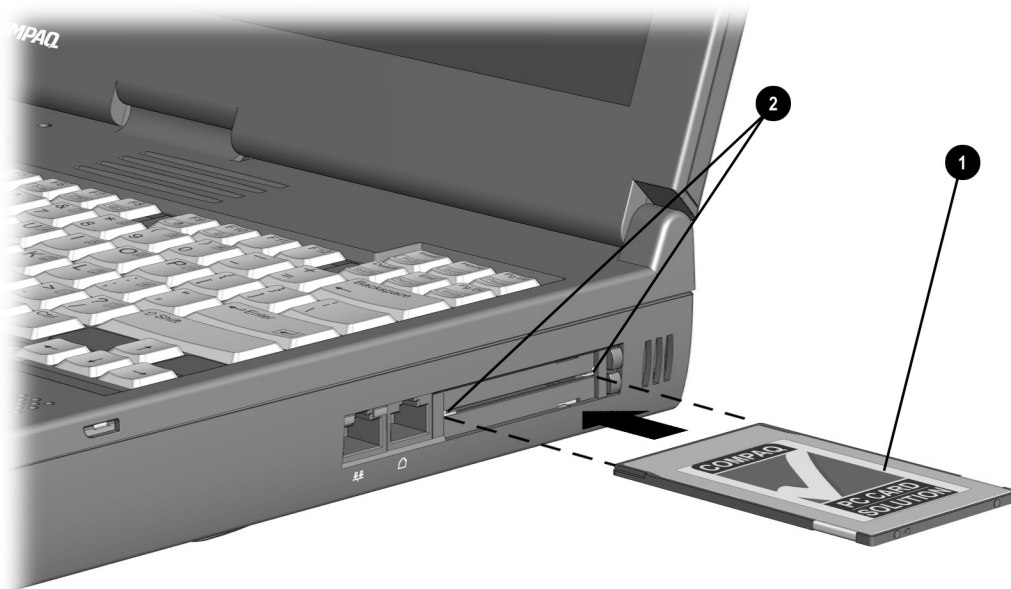

Figure 5-23. Inserting a PC Card
1. With the PC Card connector facing the computer and the label facing up **1**, align the edges of the card with the rails **2** in the PC Card slot (Figure 5-23).